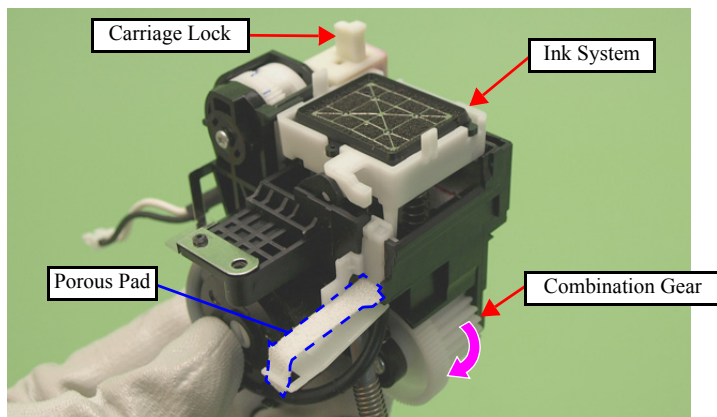

Figure 4-87. Installing the Ink System (1)
5. Insert the point A of the CR Porous Pad Assy to the point B of the Ink System. After making sure that the porous pad of the CR Porous Pad Assy touches the porous pad of the Ink System shown in Fig. 4-87, secure the CR Porous Pad Assy and the Ink System together to the frame with the screw.